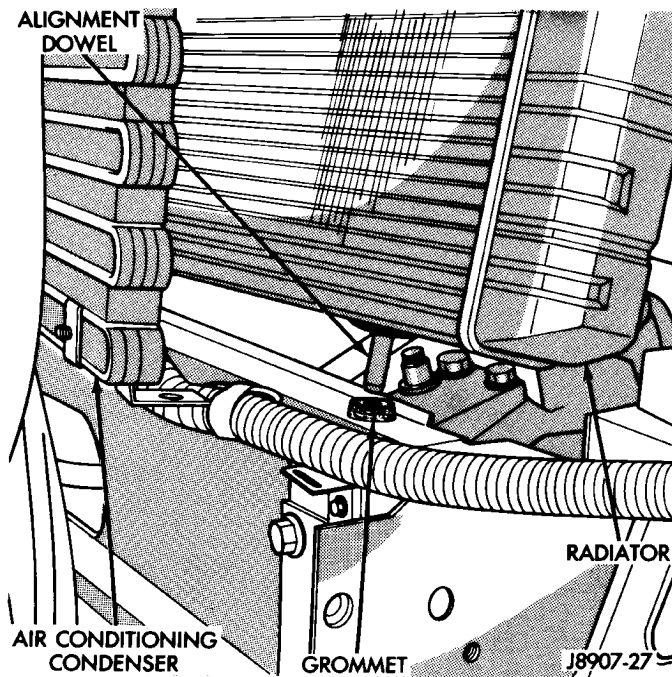

Fig. 15 Radiator Alignment Dowels—Typical
The radiator is equipped with two alignment dowels (Fig. 15). They are located on the bottom of the plastic side tanks and fit into rubber grommets located in the front lower crossmember.
(1) Carefully lower the radiator into engine compartment. Position the alignment dowels on the bottom of radiator into the rubber grommets in front lower crossmember (Fig. 15).